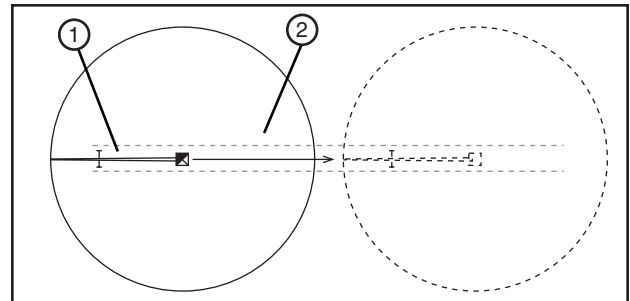

Figure 39-1 1. Machine
1. Position the machine in the tow lane. See figure 39-1.